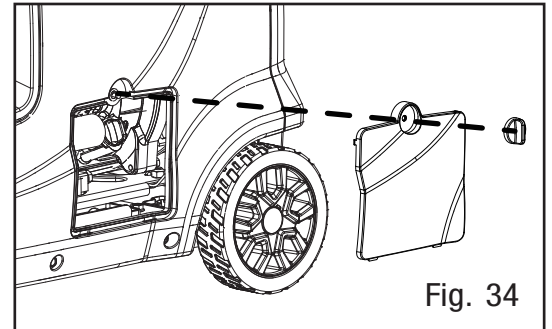

Fig. 34
2. Unscrew the oil access cover knob, and remove the cover from the side panel (Fig. 34).